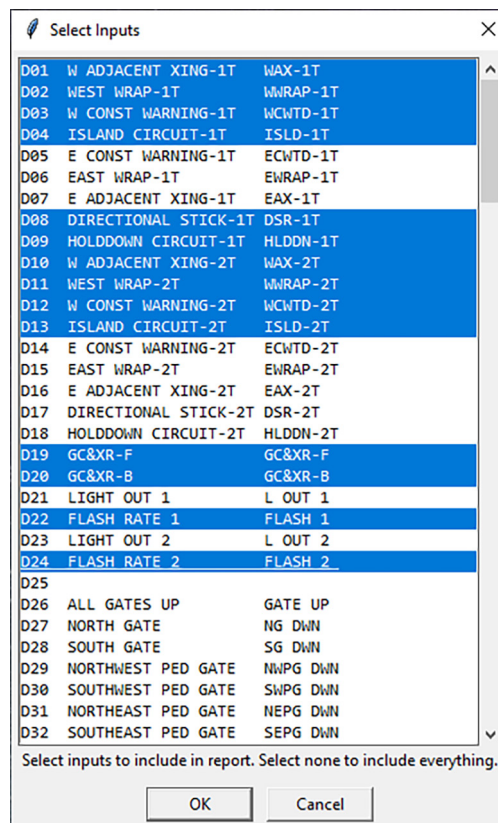

Figure 17: Select Inputs Dialog Box-Specific Inputs Selected
6. The Select Inputs dialog box can be used to create a report that includes Event Record data from all inputs and Equation Outputs or a filtered report from selected inputs and Equation Outputs. Without making any selections, click the **OK** button to create an all-inclusive report. Using the shift+click and ctrl+click mouse operations create a filter setting comprised of a contiguous range or collection of noncontiguous ranges. The dialog box depicted in Figure 17 on page 27 shows an example of several noncontiguous ranges. Only the highlighted inputs will be included in the report.